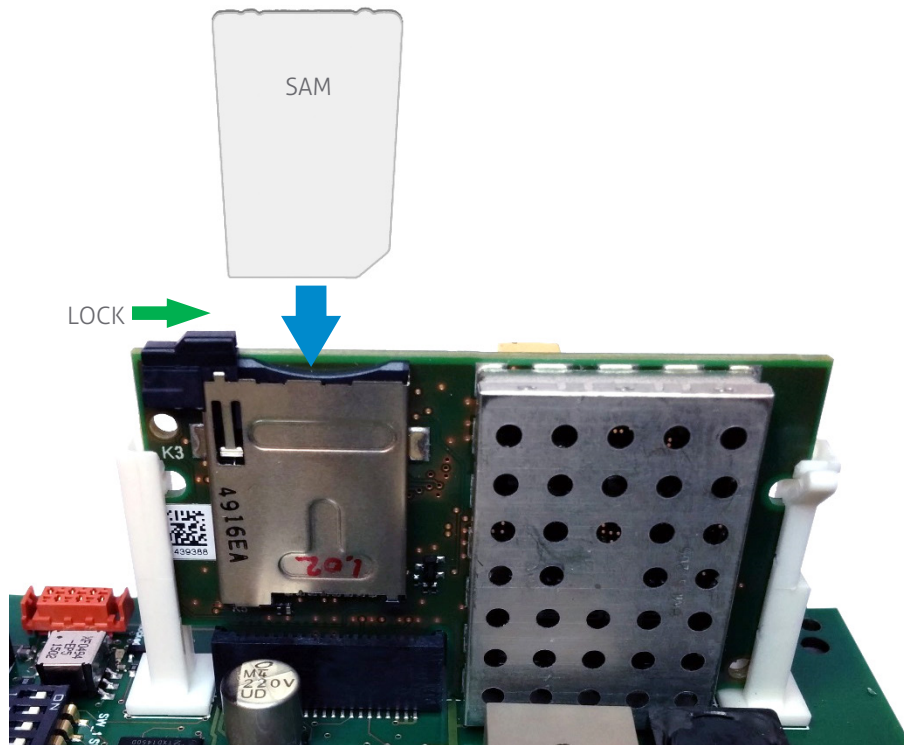

Figure 5: Installing the Security Key Pack (SAM)
1. Align the notch as indicated in Figure 5 and keep the metal contacts backwards.